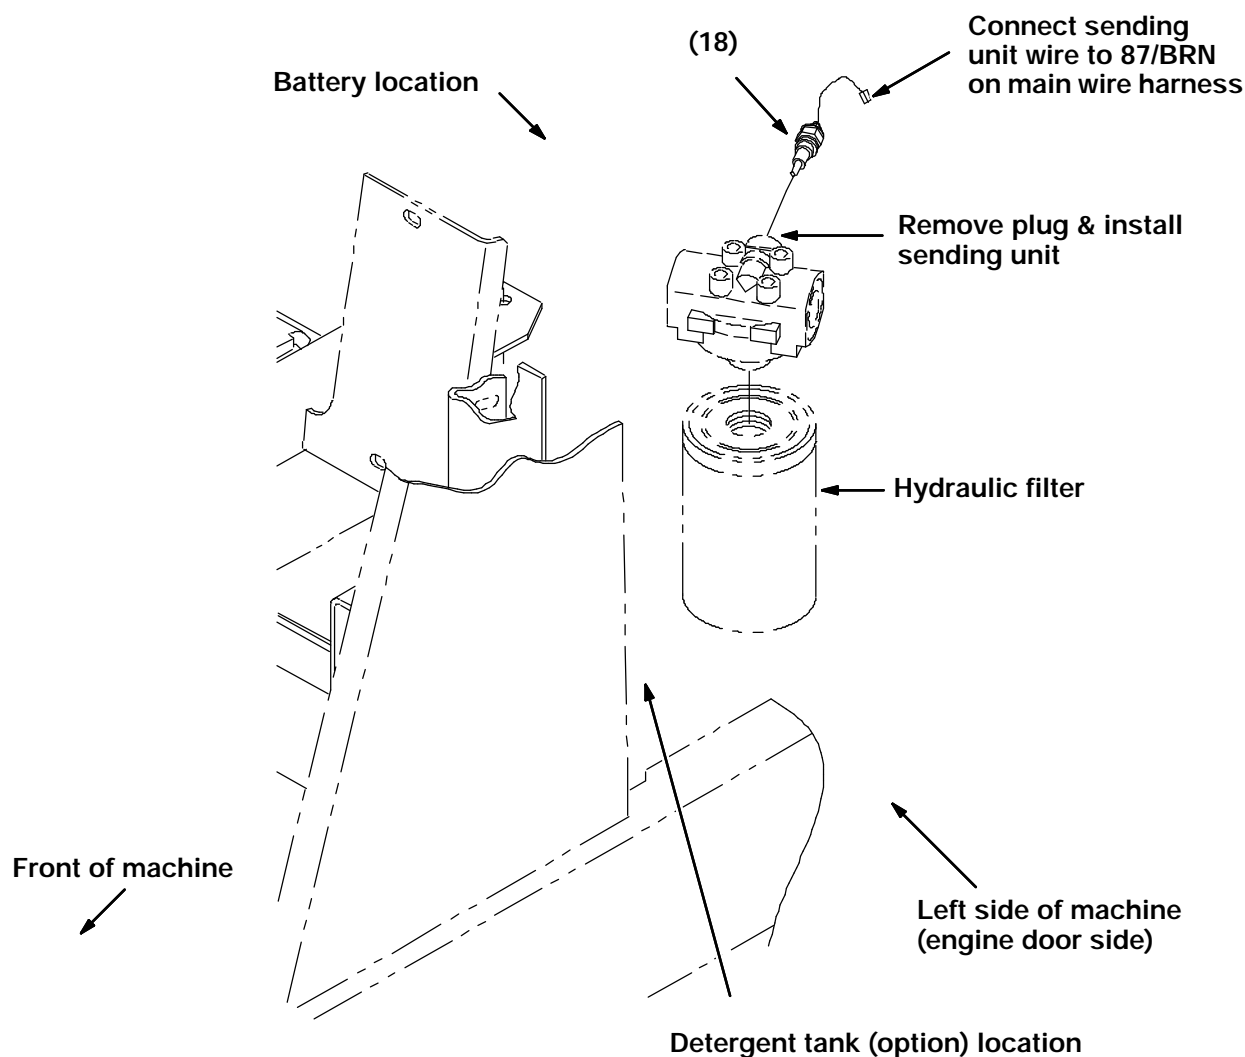

FIG. 2 - Installation of Filter Sender on Hydraulic Filter Assembly
(Refer to FIG. 2)
4. Connect the sending unit wire to the main wire harness wire 87/BRN. (Refer to FIG. 2)